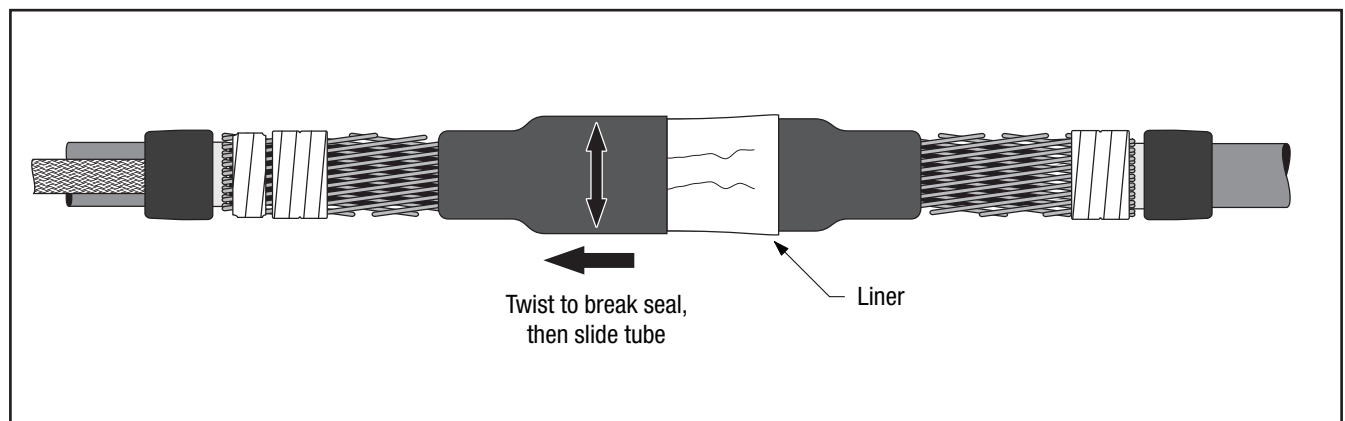

Figure 23
- 7.2 Install the re-jacketing tube by twisting the tube (not the liner) from side to side to start the movement. Then slide and unroll the tube over the constant force springs and rubber mastic. (*Figure 23*). Repeat on other side.